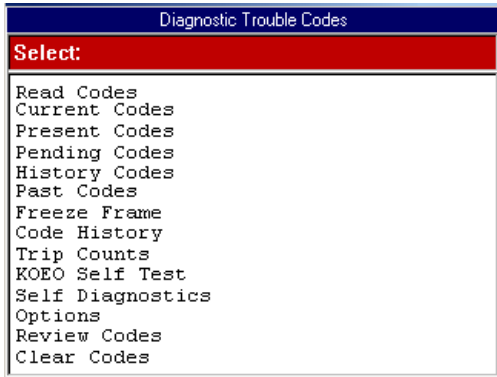

Figure 6.3: Diagnostic Trouble Codes Menu Screen Example
- 1 With the Diagnostic Menu screen displayed, select **Diagnostic Codes** and press the **ENTER** key. This displays the Diagnostic Trouble Codes menu screen (Figure 6.3 on page 27).